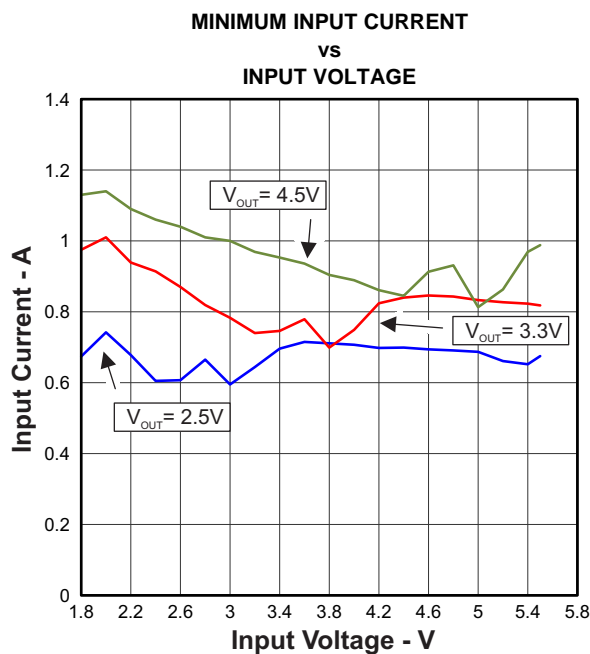
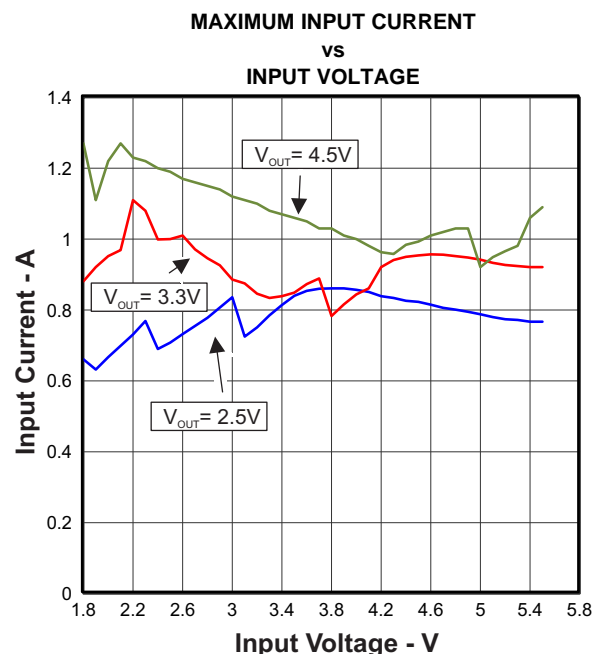

Figure 3.
Figure 4.
(1) The typical required supply voltage for startup is 2V. The part is functional down to 1.8V.
(2) For the minimum specified average input current limit at VOUT = 2.5V, 3.3V and 4.5V refer to curve in Figure 3. For the maximum specified average input current limit at VOUT = 2.5V, 3.3V and 4.5V refer to curve in Figure 4.
To protect the device and the application, the average input current is limited internally on the IC. At nominal operating conditions, this current limit is constant. The current limit value can be found in the electrical characteristics table. The current limit varies depending on the input voltage. A curve of the input current varying with the input voltage is shown in figure 3 and figure 4 respectively showing the minimum and the maximum current limit expected depending on input and output voltage.
Given the average input current in figure 3 is then possible to calculate the output current reached in boost mode using Equation 1 and Equation 2 and in buck mode using Equation 3 and Equation 4.
$I_{\text{SW}}$  = Minimum average input current (Figure 3)